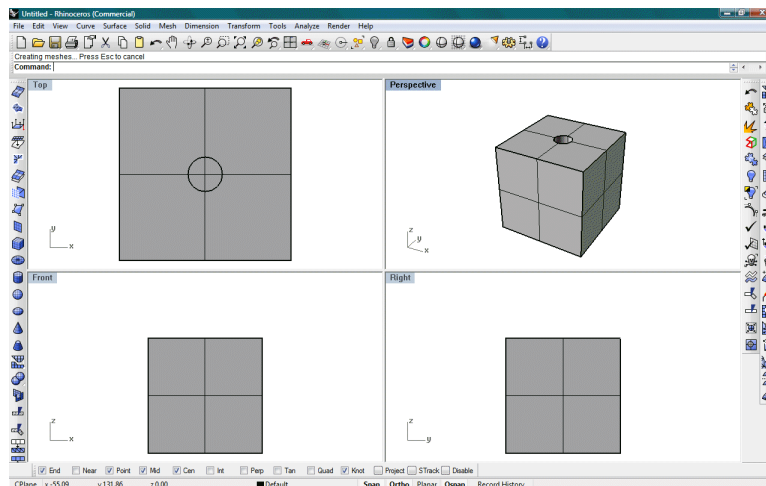

Figure 40: The Boolean subtraction of the cylinder from the box represents the excavation.
4. To excavate the cylindrical opening, we must subtract (in the Boolean algebra sense) the cylinder from the box. To do so, select the menu item **Solid | Difference**. First select the box followed by **<ENTER>**, then select the cylinder followed by **<ENTER>** (Figure 40).